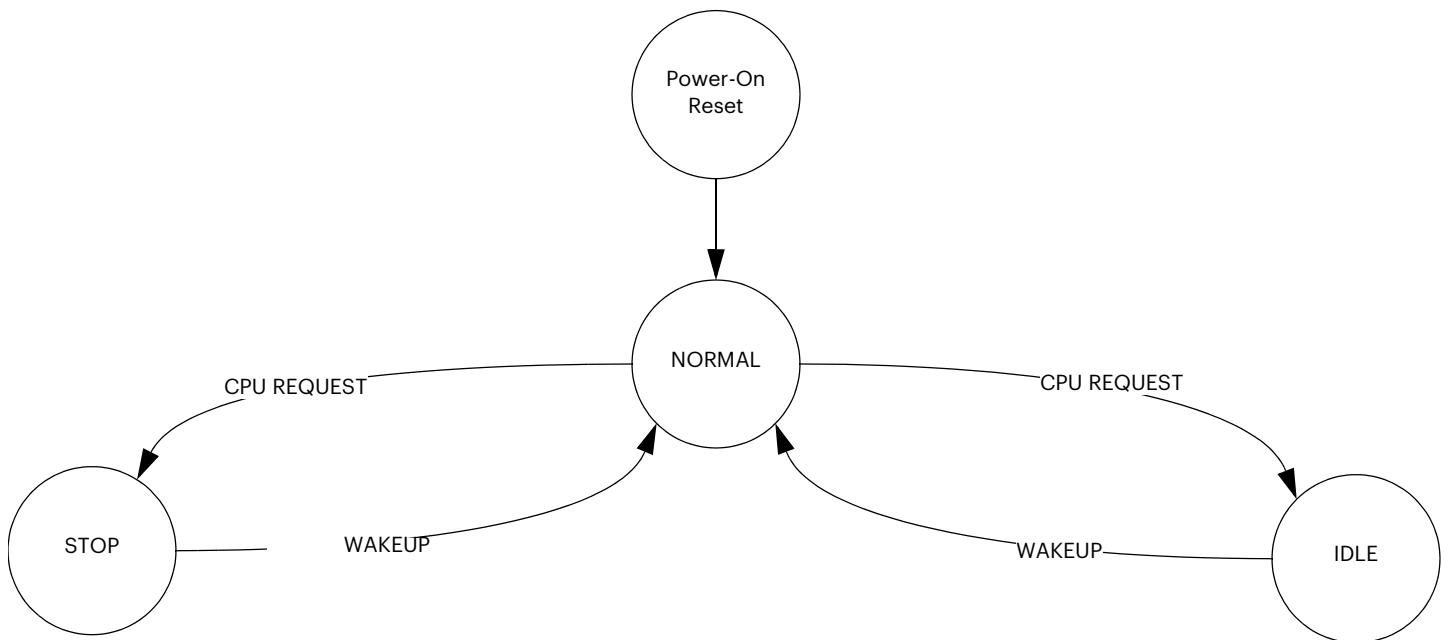

Figure 5. ARTIK 530/530s Module Power Management State Diagram
*Figure 5* shows the Power Management state diagram. In this diagram, the entry and WAKEUP conditions for each power down mode are given.